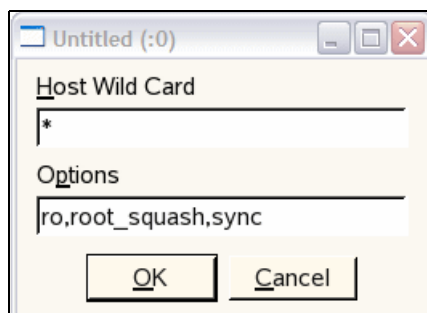

Figure 6-11 NFS configuration - permissions on exported directory
5. Next, specify which hosts are allowed to access that particular share. Here we selected a wild card for host (meaning any host can mount the selected directories), as shown in Figure 6-11 on page 251. (Refer to the Linux documentation for the meaning of the different parameters.)